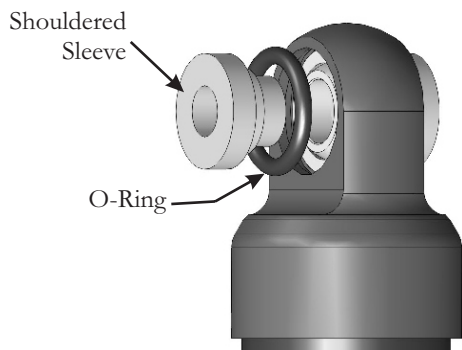

Figure 1
4. Shouldered sleeves with O-rings should already be installed in the mounting eyes of your new 428 shock. There should be two shouldered sleeves in each eye - the two wider ones go in the bottom/rear eye and the two narrower sleeves go in the upper/front eye. If they are not, insert sleeves with O-rings into the shock eye (figure 1).